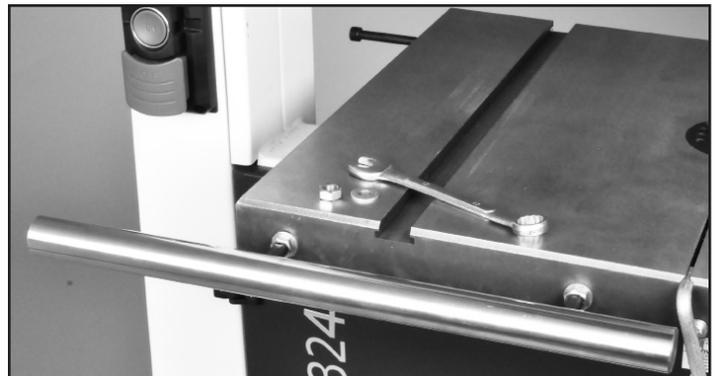

FIGURE 5
1. Mount the fence Guide Rail (#11F) onto the front table edge with the two fence bar Nuts and Washers (#15F, 16F) Fig. 5. Position the bar so that it is parallel with the table surface, and equal distance out from the front edge of the table when measured at both left and right front edges of the table.